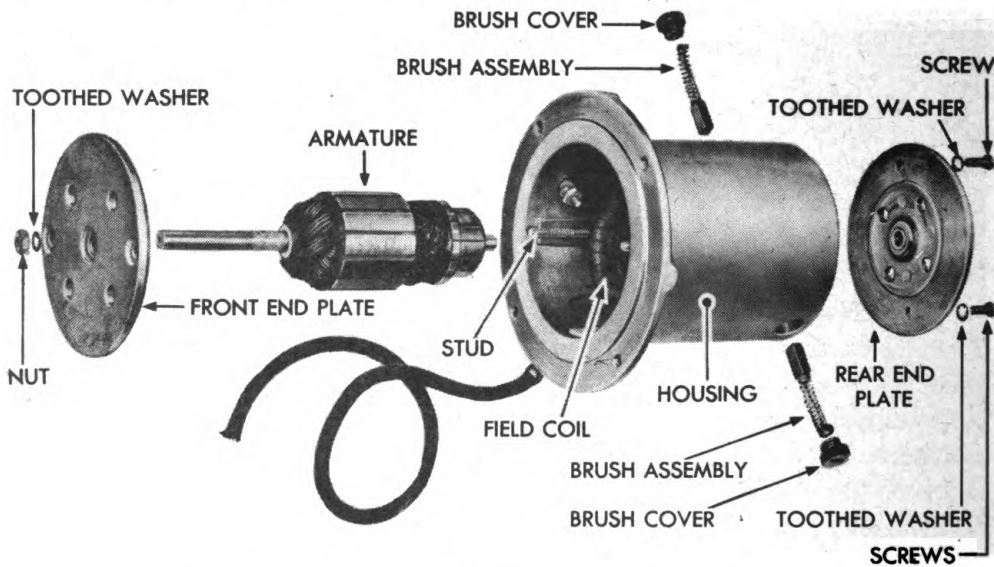

Figure 74 — Siren Motor — Disassembled
(2) **SIREN MOTOR (fig. 74).** Remove two brush covers. Lift out brush assemblies. Remove rear end plate by taking out two attaching screws and toothed washers and lifting off. Remove armature from field housing by pushing out from rear end. Pull plate off armature shaft. Remove bolt holding field ground terminal to field housing. Unsolder field terminals from brush holders. Press out field coil and shoe assembly from rear of housing. Drive bearing out from outside of end plate. Remove lock nut and toothed washers from rear end bearing plate. Screw in end play adjusting screw. This pushes bearing out of recess. Lift out adjusting screw base.
(3) **ASSEMBLE SIREN MOTOR ASSEMBLY (fig. 74).** Place assembly over two studs inside field housing, with two short terminals to
(4) **INSTALL ARMATURE** (fig. 74). Install bearing in recess in rear end plate. (Bearing with smaller shaft opening goes into rear end plate.) **NOTE:** *Armature shaft is smaller at commutator end than at drive end.* Install rear end plate on field housing with two screws and toothed washers. Unscrew end play adjusting screw.
(5) **INSTALL FRONT END PLATE** (fig. 74). Install front end plate over armature shaft, and cover two studs. Fasten plate down with two nuts and toothed washers. Adjust end play of armature. With lock nut backed off and adjusting screw loose, tap armature shaft at front end to seat rear bearing, and get all end play at rear end.
(6) **ADJUST ARMATURE** (fig. 74). Adjust adjusting socket head screw so that shaft turns freely with minimum end play. Tighten lock nut. Insert brushes into holders in field housing. Install brush covers and tighten.
a. **Install Siren (Wheel and Housing) on Motor** (fig. 74). Place siren housing on flange on front of motor. Fasten with four screws and toothed washers. Place siren wheel on motor shaft with closed side of wheel toward motor. Fasten wheel by tightening two set screws. Insert motor lead wire through front hole in siren body from inside, and install motor in body. Insert motor lead wire through front hole in base. Fasten base to body with two cap screws and toothed washers.